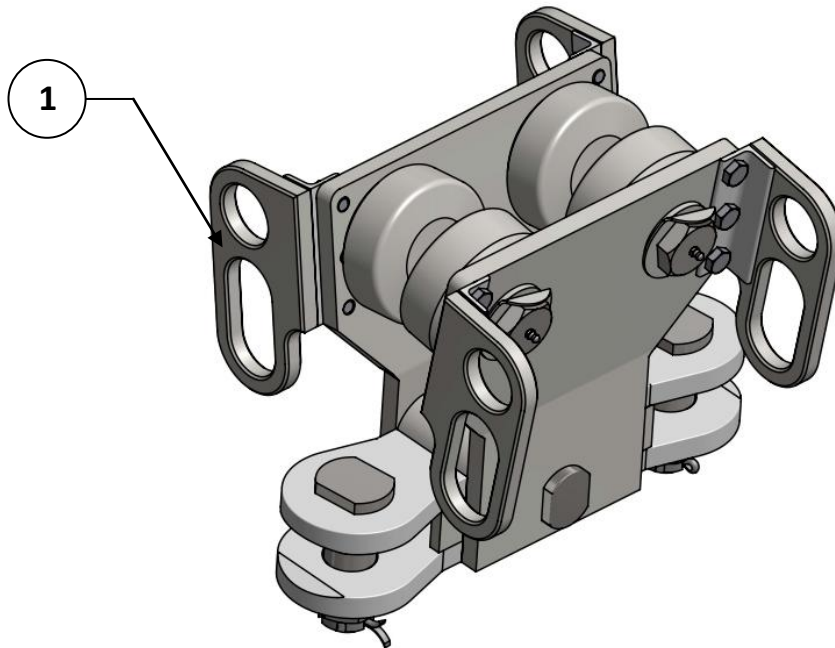

Fig. 8- WTZB trolley equipped with 4 holders (1) for pulling electric cables, hydraulic lines etc.
- cable holder (fig. 8- Item. 1).